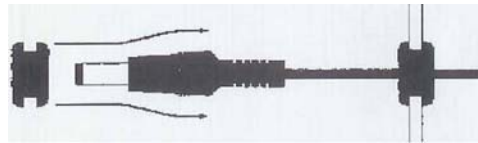

Figure 2
5) If necessary, route the power cord through the heating and cooling system cabinet to the filter rack area. If an existing access hole is not available, drill a 7/16" hole. A grommet is provided to fit a 7/16" hole (fig 2). The cord should be run so that it is not crimped or abraded and should have enough slack to allow the air cleaner to be easily removed for routine maintenance. Position the power cord slack to keep it away from the heating and cooling system blower and other moving parts.